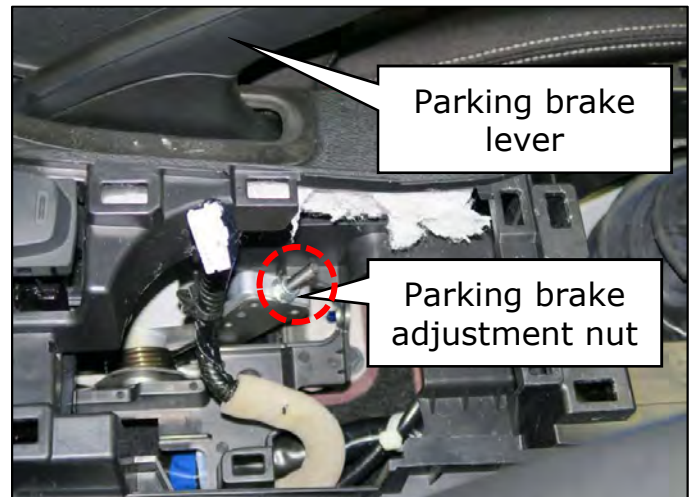

Figure 35
- Using a deep well 10mm socket loosen the parking brake adjustment nut several turns (Figure 35)